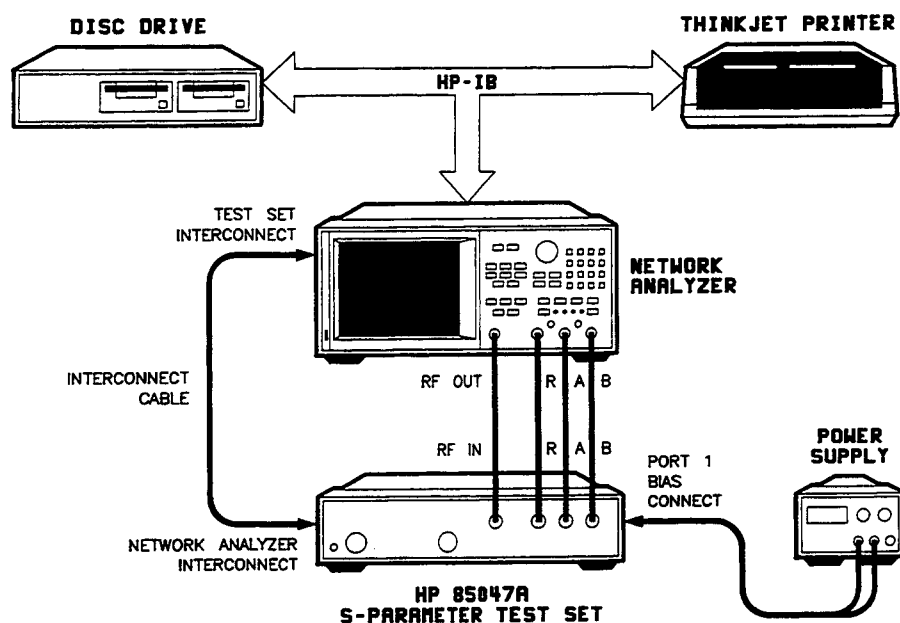

Figure 8. Performance Tests Setup
1. Connect the equipment as shown in Figure 8. Set the disk drive HP-IB address to 0 and the printer address to 1. Allow 30 minutes for warm-up.
1. Verify that the equipment is set up as shown in Figure 8. The power supply is not used for this test.